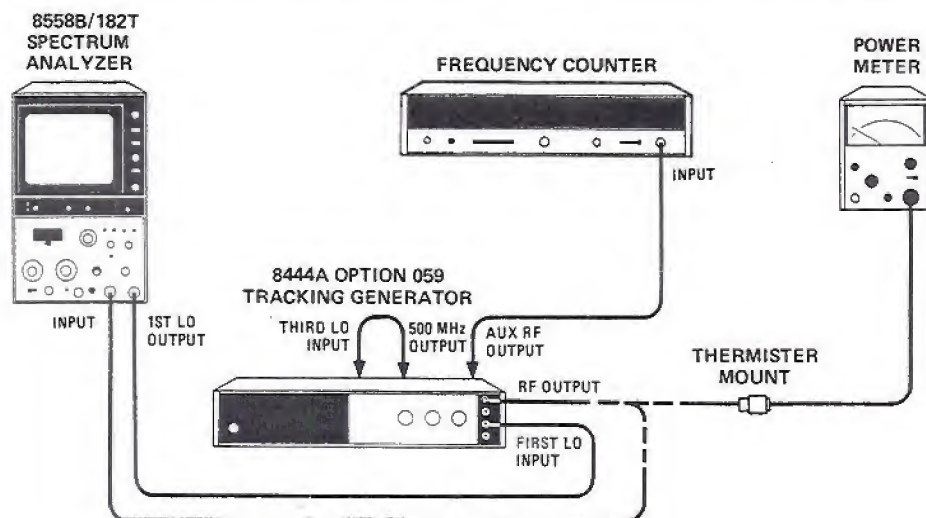

Figure E-1. Output Level and Flatness Test Setup
1. Connect equipment as shown in Figure E-1 with frequency counter connected to tracking generator rear-panel AUX RF OUTPUT and tracking generator front-panel RF OUTPUT connected to spectrum analyzer RF INPUT.